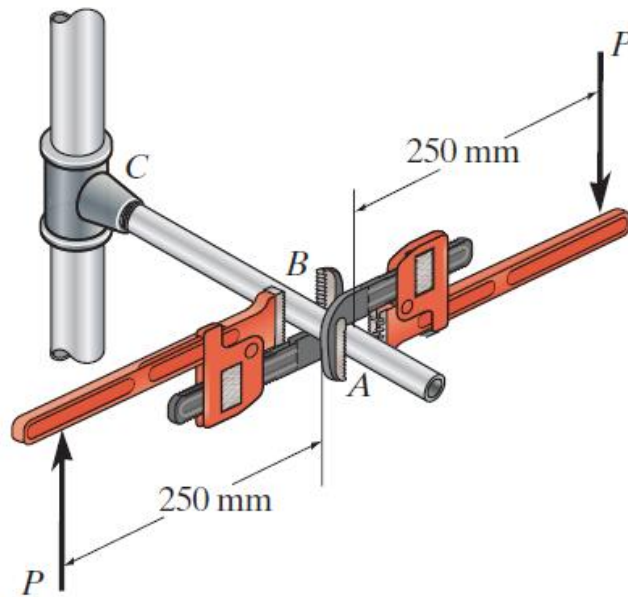

Fig.6b
- b) Two wrenches are used to tighten the pipe as in fig 6b. If $P = 300 \text{ N}$ is applied to each wrench, determine the maximum torsional shear stress developed within region BC. The pipe has an outer diameter of 25 mm and inner diameter of 20 mm. Sketch the shear stress distribution **08**